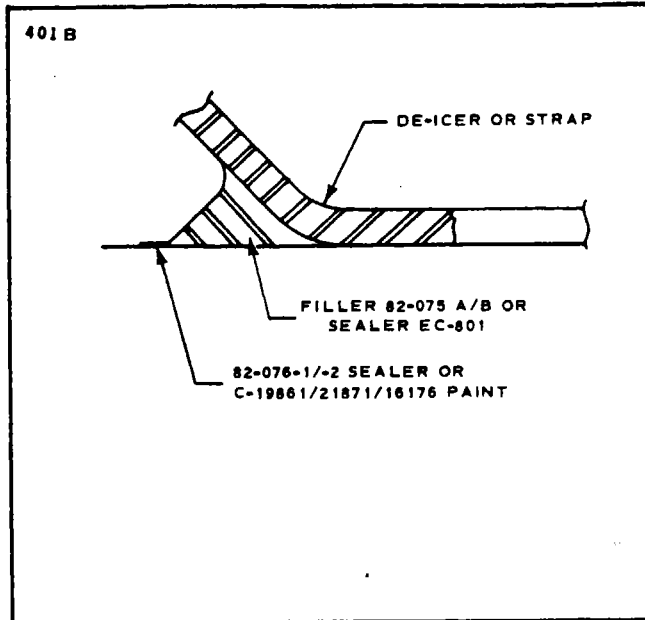

Figure 14-20b. Sealer Application
- f. Insure that a fillet of filler completely covers the area between deicer strap and blade. (See Figure 14-20b.) Immediately remove masking tape and allow filler to dry for six hours.
- h. Insure that sealer completely covers area between deicer strap and blade. (See Figure 14-20b.) Immediately remove masking tape and allow sealer to dry for 24 hours before starting engine.